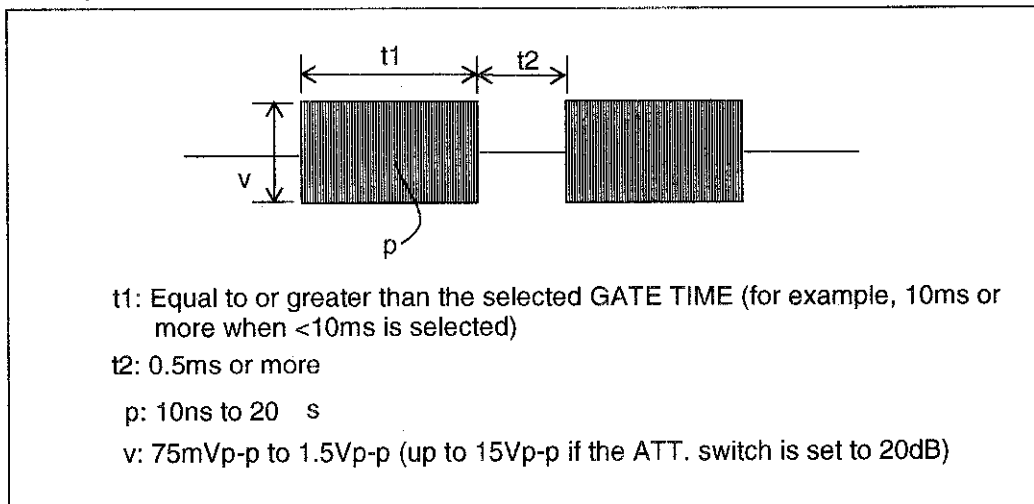

Figure 3-8 Condition for Burst Signal Measurement in FREQ. B
- ⑨ Select sample rate needed with the SAMP. RATE switch.
- ⑩ Active the ATT. (20dB) switch as needed.
- ⑪ When measuring a burst signal, set the BURST switch to ON. Figure 3-8 shows the conditions for burst signal measurement.